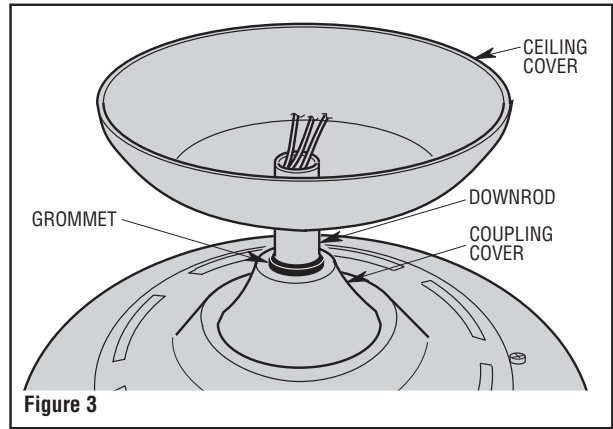

Figure 3
4. Make sure the grommet is properly installed in the coupler cover, then slide the coupler cover on the downrod until it rests on the motor housing. Place the ceiling cover over the downrod. Be sure that the ceiling cover and the coupler cover are both oriented correctly (Figure 3).